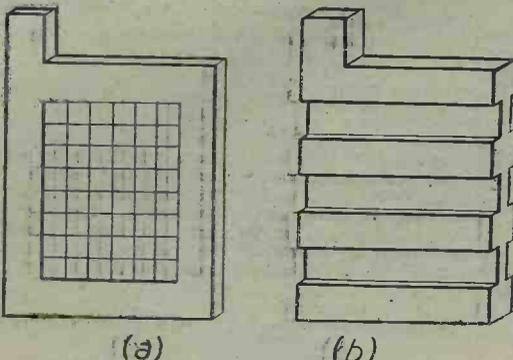

Fig. 2.—Two types of plate formation: (a) Four, or "pasted," and (b) "plated or formed."
*The Planté or "Formed" Plates.*—The Planté type plate (Fig. 2) consists of solid blocks of lead which have been formed or converted to lead peroxide or spongy lead by means of many cycles of charge and discharge. Because of these cycles the plates are expensive to manufacture, and due to their solid nature they are very heavy.
Although Fauré plates, Fig. 2 (a), are much lighter and cheaper than the Planté type, they are not so capable of withstanding heavy currents and harsh treatment, due to the "shedding" or falling out of the active material from the grids. The positive plate is